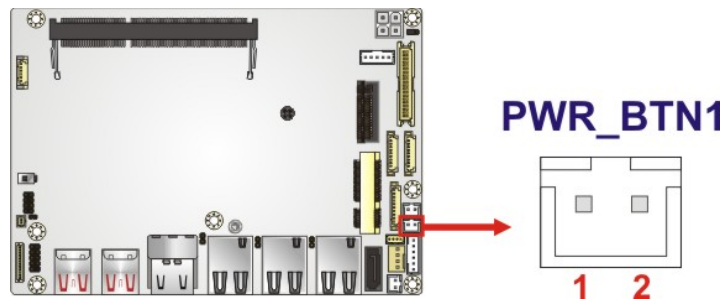

Figure 3-14: Power Button Connector Location
- CN Location:** See **Figure 3-14**